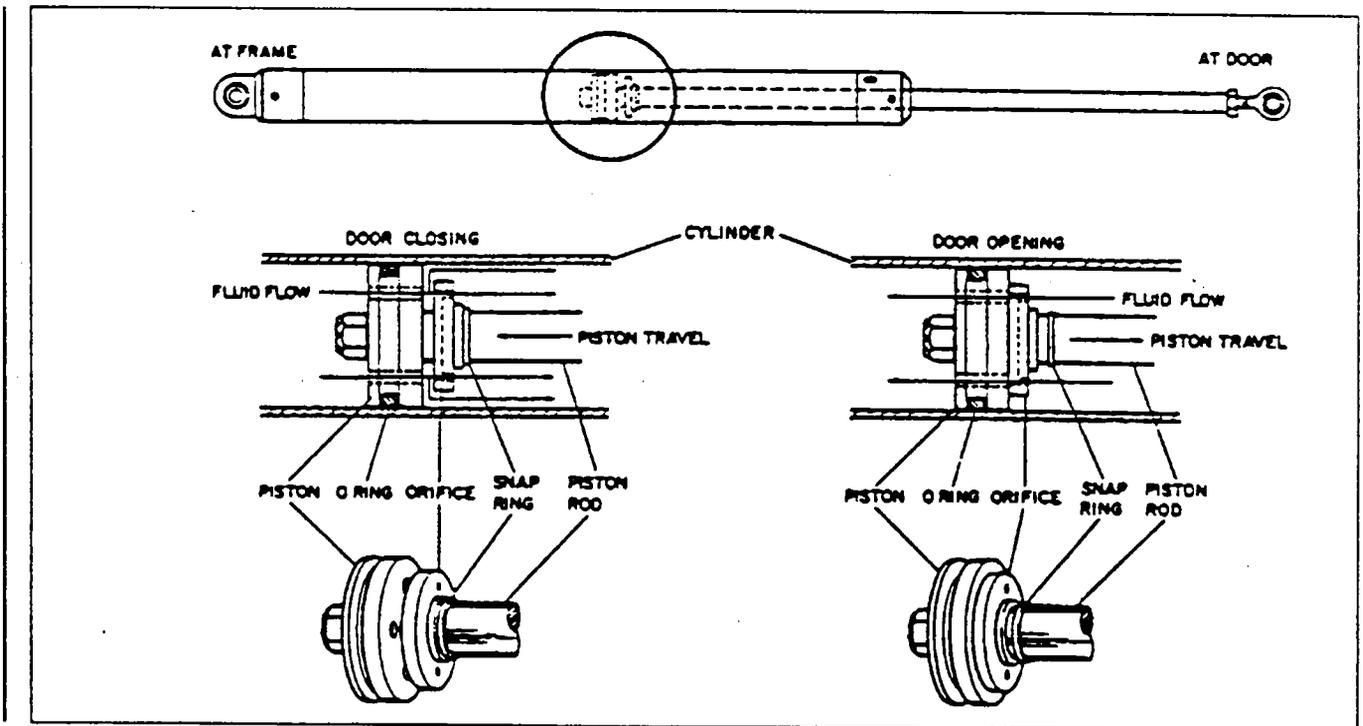

Figure 52-2. Door Snubber Assembly
**CABIN DOOR SNUBBER.** (Refer to Figure 52-2.)